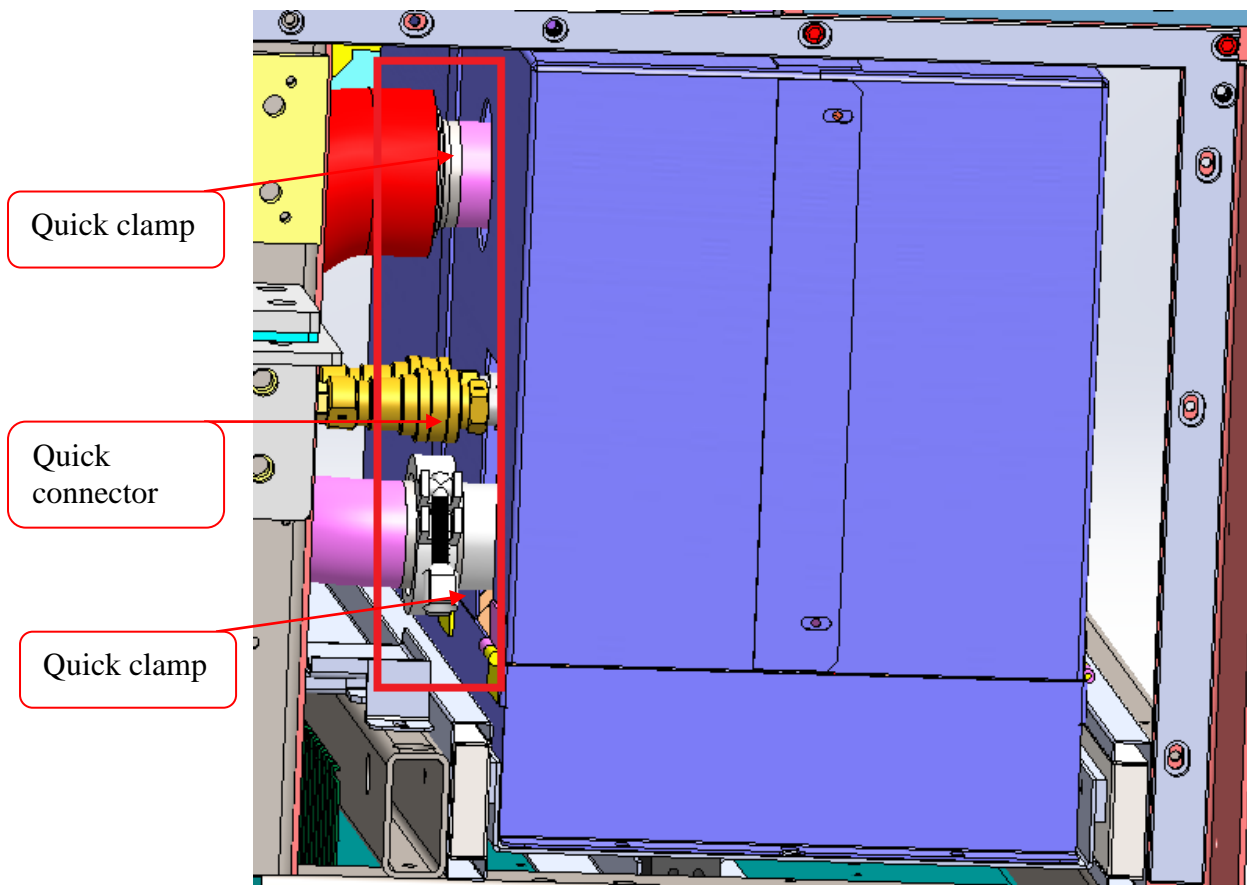

Fig 1
2. Remove 2- quick connector for water Plumbing , 2- quick clamp and 2-Viton gasket for Air plumbing below picture red shown (See Fig 1), Set them aside for reinstallation